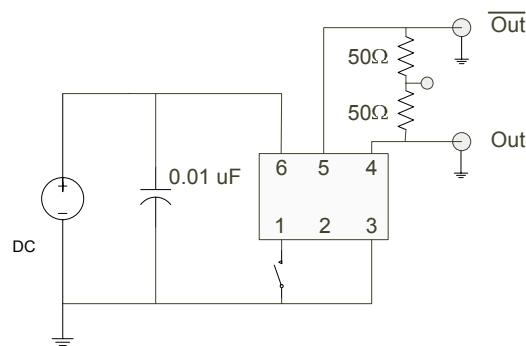

Figure 3
4. Figure 2 defines these parameters and Figure 3 defines the test circuit.